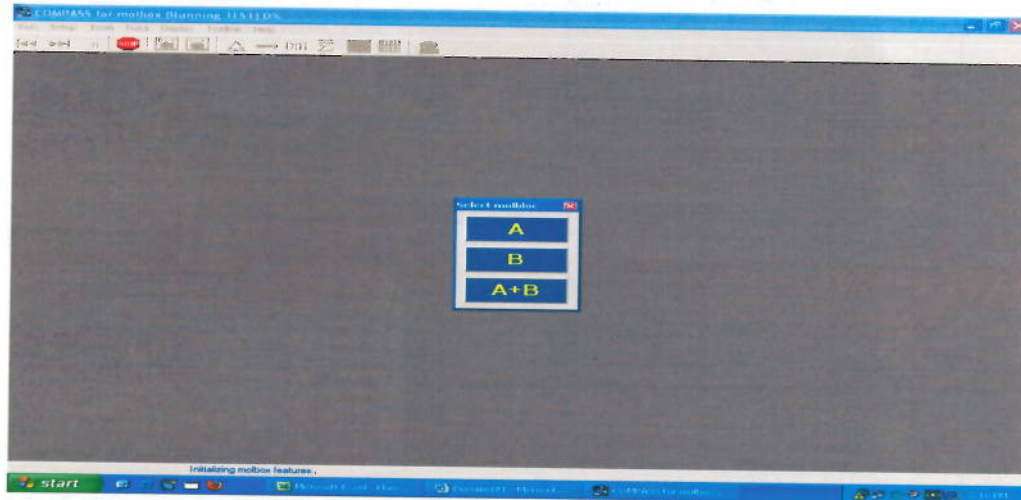

Figure 8
- 12.3.7 Select the Molbloc reference standard that the candidate flow standard is connected to. Your options are: A, B or A+B. See Figure 8.